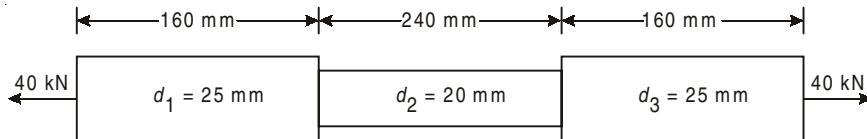

Fig. 1.20
- 1.10. A bar shown in Fig. 1.20 subjected to axial loads of 40 kN. It has 3 sections of diameters 25 mm, 20 mm and 25 mm and lengths 160 mm, 240 mm and 160 mm respectively. The applied load causes an extension of 0.3 mm. Determine the Modulus of elasticity and E of the material.